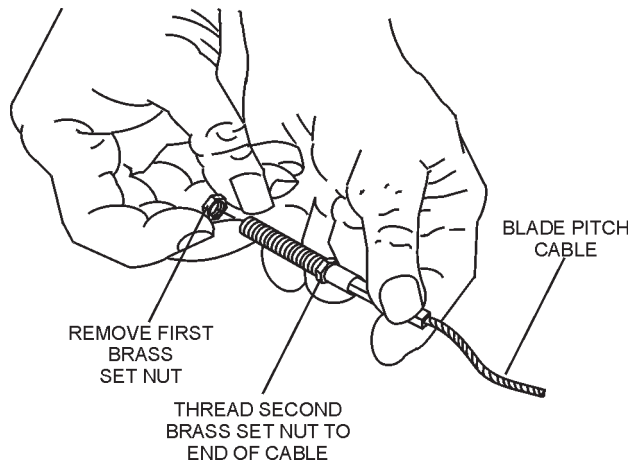

Figure 14. Blade Pitch Cable
3. Remove one brass set nut from the blade pitch cable end as shown in (Figure 14).